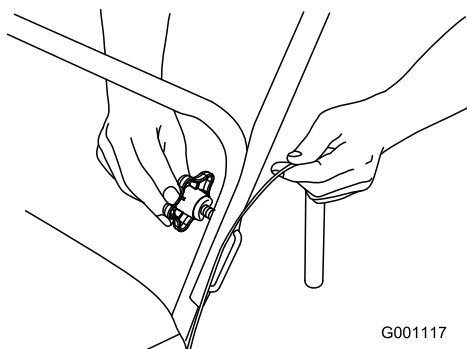

Figure 5
- Fully insert the handle bolts (Figure 5).
Important: Ensure that you do not pinch the control cable (Figure 5).